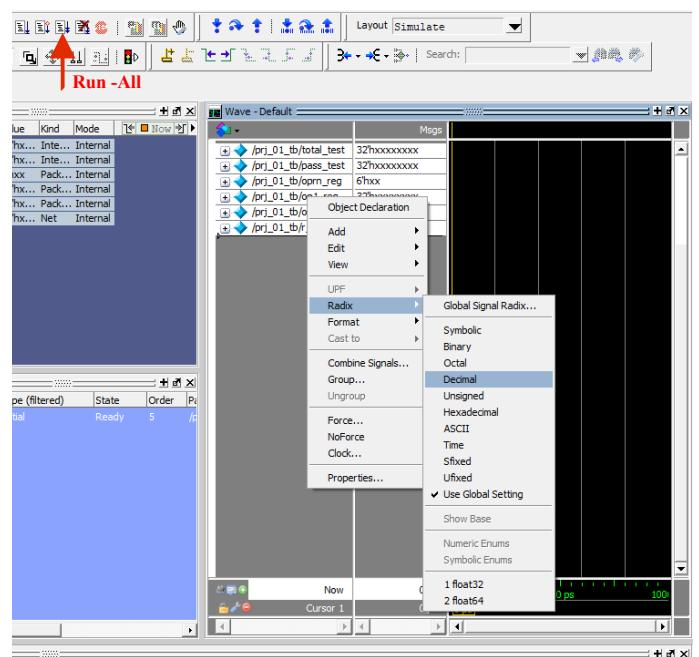
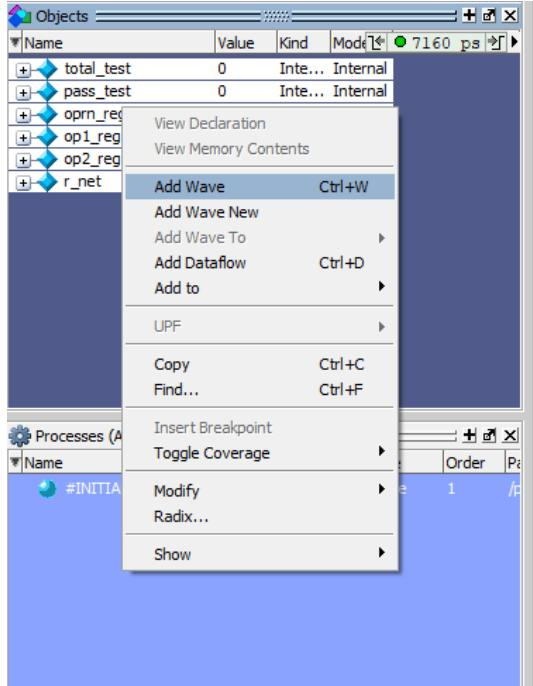

Figure 2.11:Waveform Window and changing radix
Figure 2.10: Object Window and adding wave
- 7) An ‘Object’ window should appear after step 6, as the one shown in figure 2.10. It will show ALU modules input, output and the test’s name. Select all of them (using shift or manually) and right click to choose ‘Add Wave’ or simply press on **Ctrl+W**. A new black window will show up on the left side such as in figure 2.11.
- 8) By default, the values on the wave will be in hexadecimal form to change that select all values as shown in figure 2.11 and click on ‘Radix’. You should be able to choose the format you prefer. For this report, the format that will show most clearly the operation being executed will be selected.
- 9) In this final step, you should use the ‘Run all’ button to see the output in the wave window (Figure 2.11).